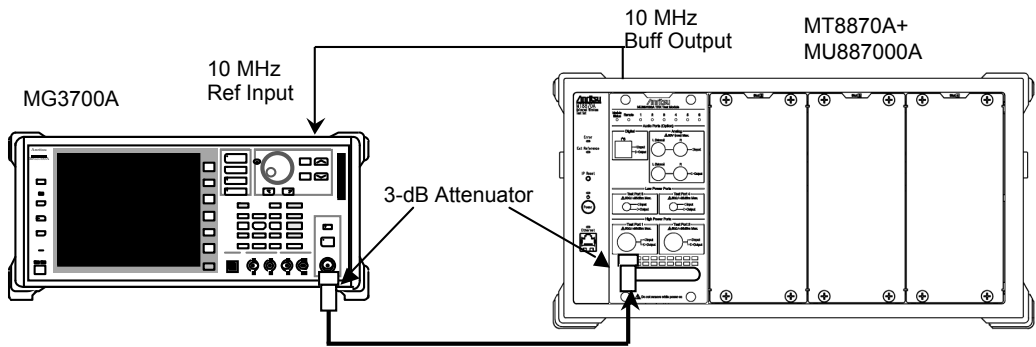

Figure 6.3.7-1 Setup for Measuring carrier-off power
1. Setup the instruments as shown in Figure 6.3.7-1.